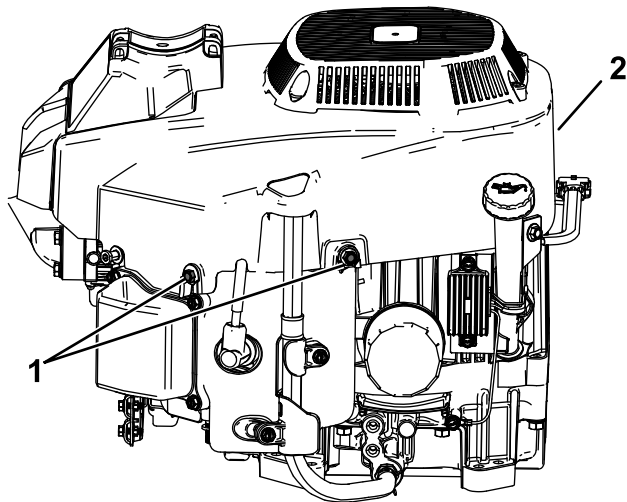

Figure 43
2. Clevis pin (2)
3. Hairpin cotter (2)
4. Loosen the bolts and remove the fan housing (Figure 43).